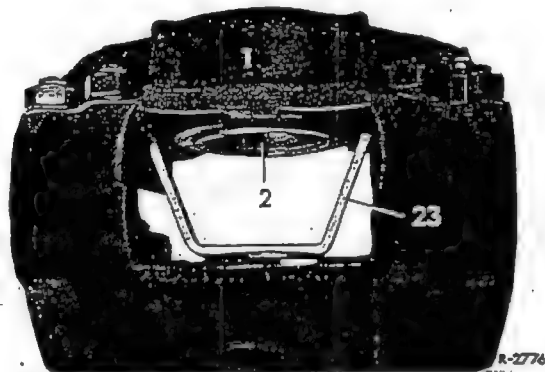

Fig. 42-12/7
- When a piston is rusted in the brake caliper it cannot be forced out with compressed air since extreme pressure would be required to free a jammed piston. Remove the two heat screening plates from the piston and fix the freely moving piston in its position in the brake caliper (1) by means of the holding fixture (23). Attach the brake caliper to the brake line of the car by means of a brake hose. Bleed the brake caliper and free and force out the jammed piston by depressing the brake pedal (Fig. 42-12/7).